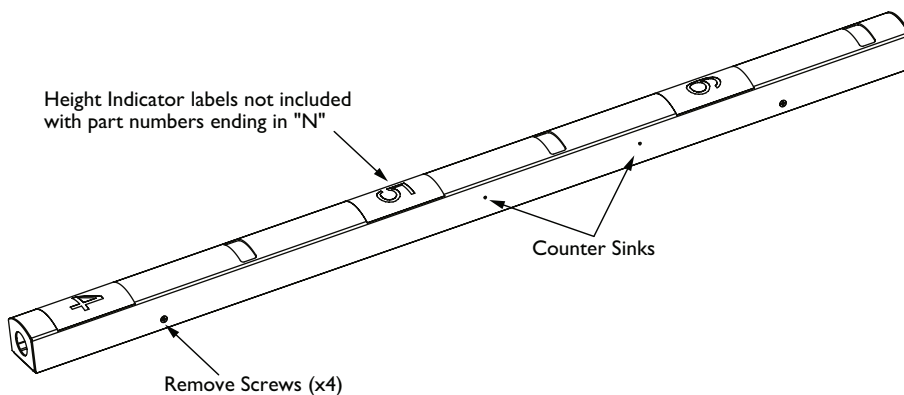

Figure 2 Assembled Height Strip Camera
2. Using a No. 2 Cross Recessed screwdriver, remove all four screws that secure the cover (see **Figure 2**). Remove cover.